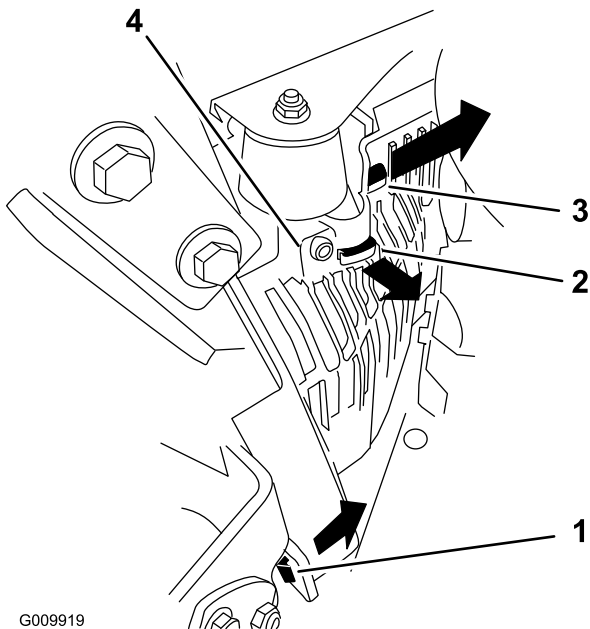

Figure 61
3. Remove the left hydraulic-unit shroud in the order listed with Figure 61. This gives you access to the front spark plug.
2. Install the hydraulic shroud (Figure 61).